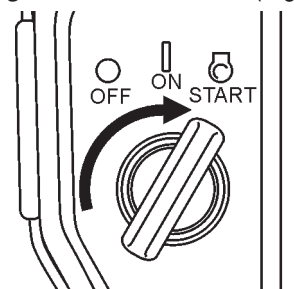

Figure 28. Ignition Switch (Start Position)
6. Place the **Engine ON/OFF switch** (Figure 28) in the **ON** position.